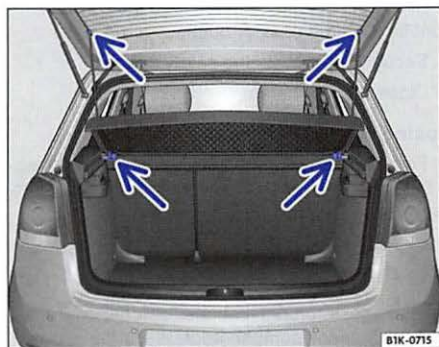

Fig. 84 In the luggage compartment: Installing and removing the luggage compartment cover.
- Unhook the supporting straps from the rear hatch ⇒ fig. 84 (top arrows).
- Pull the luggage compartment cover back and out of the side brackets ⇒ fig. 84 (bottom arrows).
- Slide the luggage compartment cover forward into the side brackets ⇒ fig. 84 (bottom arrows).
- Hook the supporting straps onto the rear hatch ⇒ fig. 84 (top arrows).